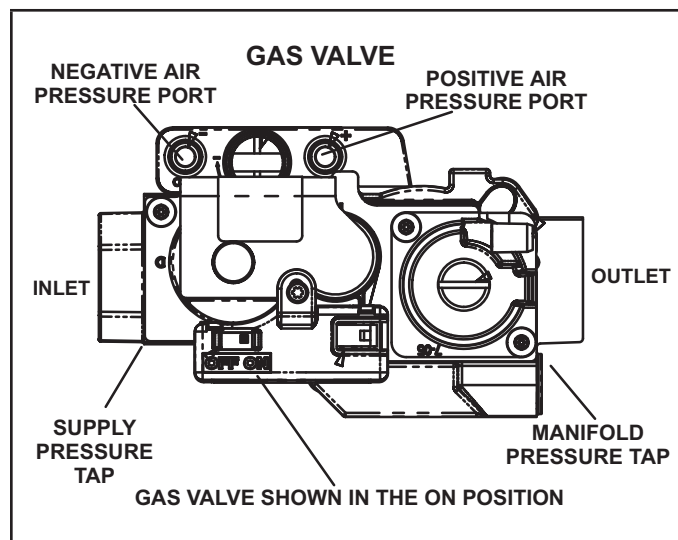

FIGURE 60
## Gas Valve Operation (FIGURE 60)
- 6 - Move the gas valve switch to the OFF position. See FIGURE 60.
- 8 - Move gas valve switch to the ON position. See FIGURE 60. Do not force.